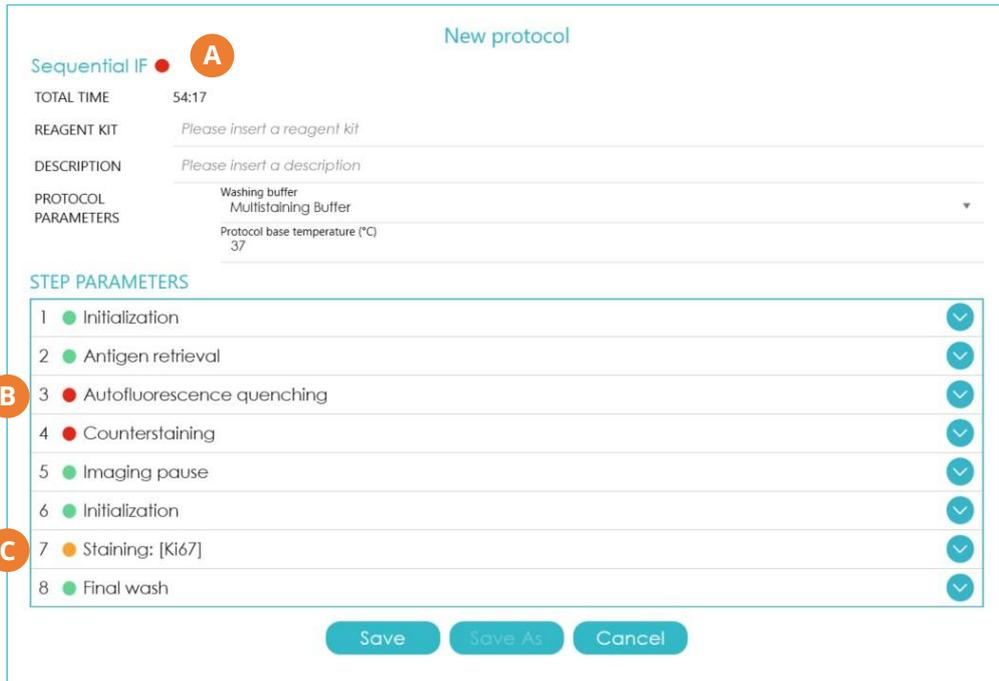

Figure 23) “New protocol” window showing a protocol error (A). Step error (B) and step warning (C).
4. Click "OK". The "New protocol" window will open (Figure 23).